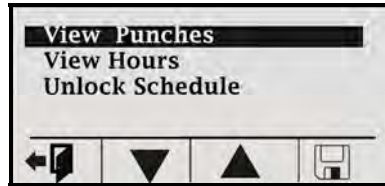
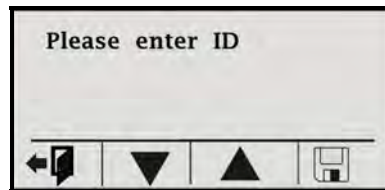

Figure 17: View Employee Punches
Figure 18: Enter ID for Punches
Step 1. From the normal main display (see **Figure 16**) press the menu  button on the left to view employee information (see **Figure 17**). From this screen, use the **Back**  button to exit and return to the main display.
- Step 2.** Use the Function buttons (see **Figure 17**) as indicated underneath the display to move Up ▲ or Down ▼ to highlight “View Punches” and press **enter enter** to select and the screen will change to the following (see **Figure 18**).